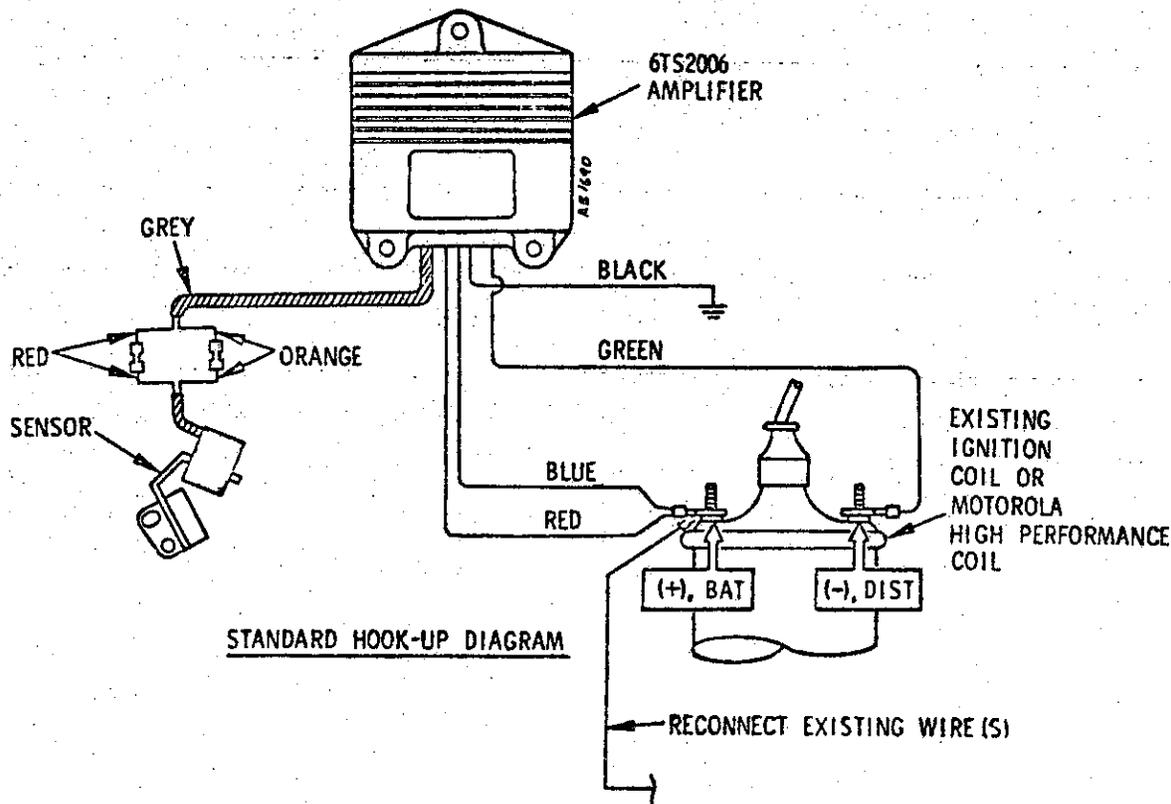
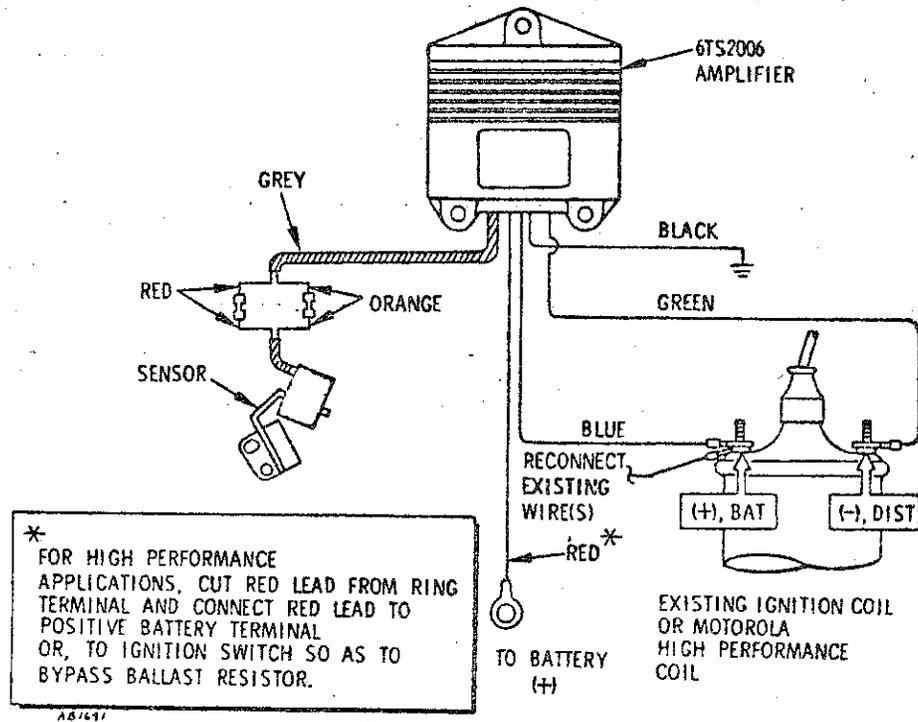

FIGURE 2
FIGURE 3
**WIRING INSTRUCTIONS (Figure 2)**
1. Route wires from amplifier to the ignition coil and distributor as indicated by the hook-up diagram in Figure 2. Route wires along existing har-
3. Connect blue/red wire to positive terminal (marked either "+" or "BAT") of ignition coil. Connect green wire to negative terminal (marked either "-" or "DIST") of ignition coil. See Figure 2. For high performance applications, see Figure 3. A special high performance coil is available for either hook up. See your dealer for more information.